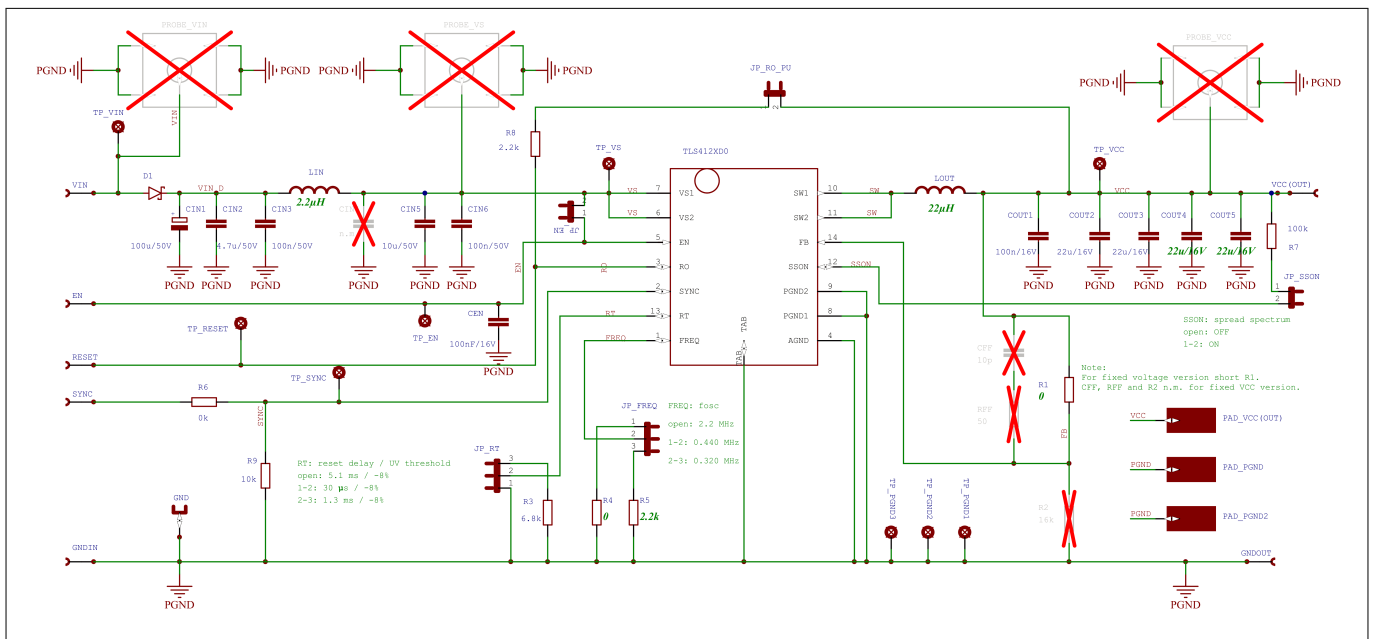

Figure 14 Schematic for fixed output voltage variants in LF configuration
- fixed output voltage variants TLS412xD0EPVxx in LF configuration, see **Figure 14**